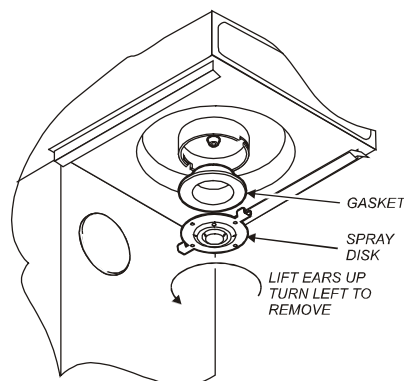

Fig. 7 Cleaning
4. Remove the spray disk from the brew head (See figure 7):